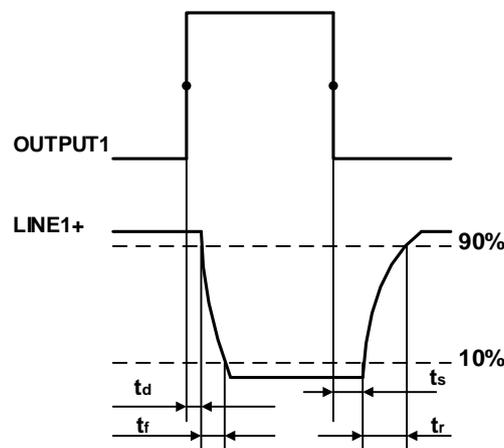

Figure 7-7 Parameter of opto-isolated output circuit
- Rising time delay = t_r+t_d : $<50\mu s$ ($0^\circ C\sim 45^\circ C$) (parameter description is shown in Figure 7-7)
- Falling time delay = t_s+t_f : $<50\mu s$ ($0^\circ C\sim 45^\circ C$) (parameter description is shown in Figure 7-7)